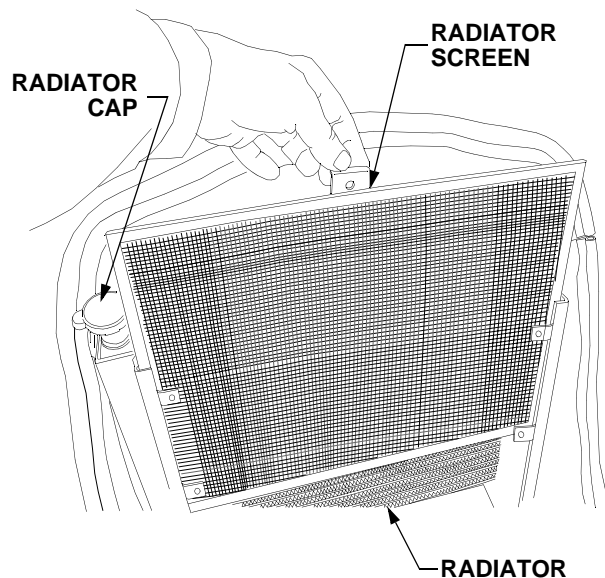

Figure 48
To remove the radiator screen, lift the hood and carefully lift screen by the center tab. Flush the screen with water to clean its surface. See Figure 48.
If the overflow reservoir is empty, the radiator cap should be removed and the coolant level in the radiator checked before adding coolant to the reservoir. If necessary, first refill the system through the radiator filler neck as follows (Refer to Figure 48):
- Turn the radiator cap counterclockwise to the first stop, then push downward on the cap and turn counterclockwise to remove. Refer to Figure 48.